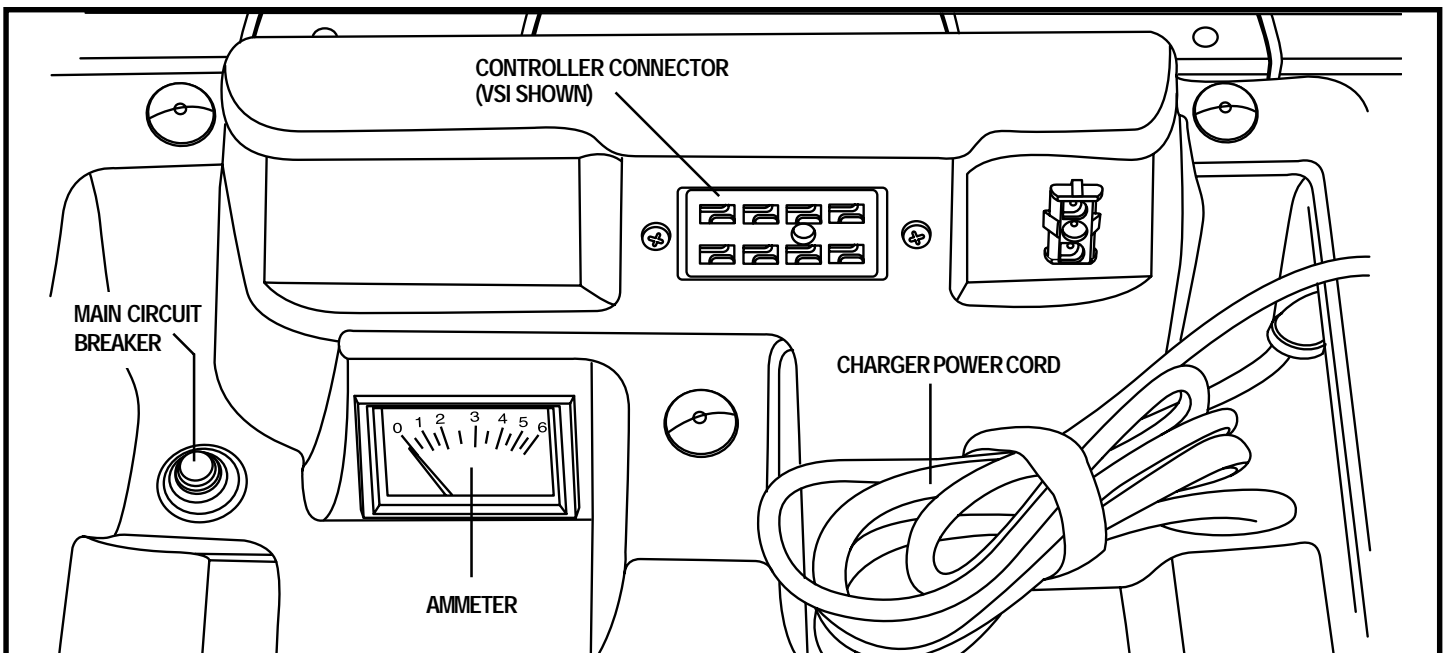

Figure 7. Jazzy 1170XL Plus Series Electrical Components
6. Plug the controller cable into the connector on the electronics tray. See figure 7.